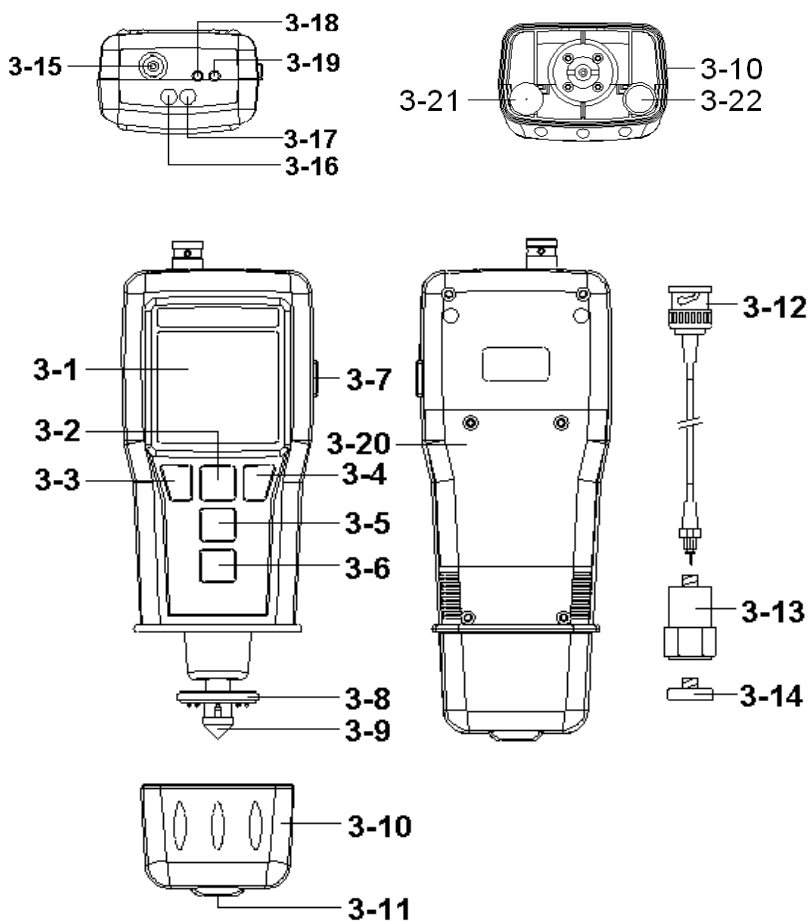

Fig. 1
- 1) Plug in the " BNC plug " (3-12, Fig. 1) to the " BNC socket " (3-15, Fig. 1).
- 2) Power on the meter by pressing the " Power button " (3-2, Fig. 1).
- a. For the Acceleration measurement, press the " Unit button " (3-6, Fig. 1) once until the display show the " ACC ", " m/s^2 ", " RMS " symbol or the " ACC ", " g ", " RMS " symbol.
- b. For the Velocity measurement, press the " Unit button " (3-6, Fig. 1) once until the display show the " VEL ", " mm/s " and " RMS " symbol or the " VEL ", " cm/s " and " RMS " symbol.
- c. For the Displacement measurement, press the " Unit button " (3-6, Fig. 1) once until the display show the " DISP(P-P) ", " mm " symbol.
- 5) If the surface material of measuring article is the ferrous material, connect " Vibration sensor " (3-13, Fig. 1) with the " Magnetic base " (3-14), refer Fig. 3.
During the measurement, press the " Unit button " (3-6, Fig. 1) at least 2 second continuously, the display unit can be changed from the Imperial unit to Metric unit or be changed from Metric unit to Imperial unit.
During the Acceleration, Velocity, Displacement measurement if press " Function/Send button " (3-5, Fig. 1) once can select the following function :
If intend reset the " MAX HOLD " value, just press the " Zero button " (3-3, Fig. 1) > 2 sec continuously, the display will return to zero and make the new max. hold value measurement again.
During the measurement, push the " Hold button " (3-3, Fig. 1) will hold the measured value & the LCD will show " HOLD " symbol.
- 1) Press the " REC button " (3-4, Fig. 1) once to start the Data Record function. " REC " will be displayed.
- a) Press the " REC button " (3-4, Fig. 1) once, the " REC MAX. " symbol along with the maximum value will appear on the display.
To delete the maximum value, just press the " Hold button " (3-3, Fig. 1) once. The display will show " REC " and execute the memory function continuously.
- b) Press the " REC button " (3-4, Fig. 1) again, the REC MIN. " symbol along with the minimum value will appear on the display. To delete the minimum value, just press the " Hold button " (3-3, Fig. 1) once, then the display will show the " REC " symbol only and execute the memory function continuously.
- 1) Press the " Function button " (3-5, Fig. 1) to the " Acceleration " position.
- 3) Press the " Zero button " (3-3, Fig. 1) continuously at least 2 second, the display will return to zero value with default.